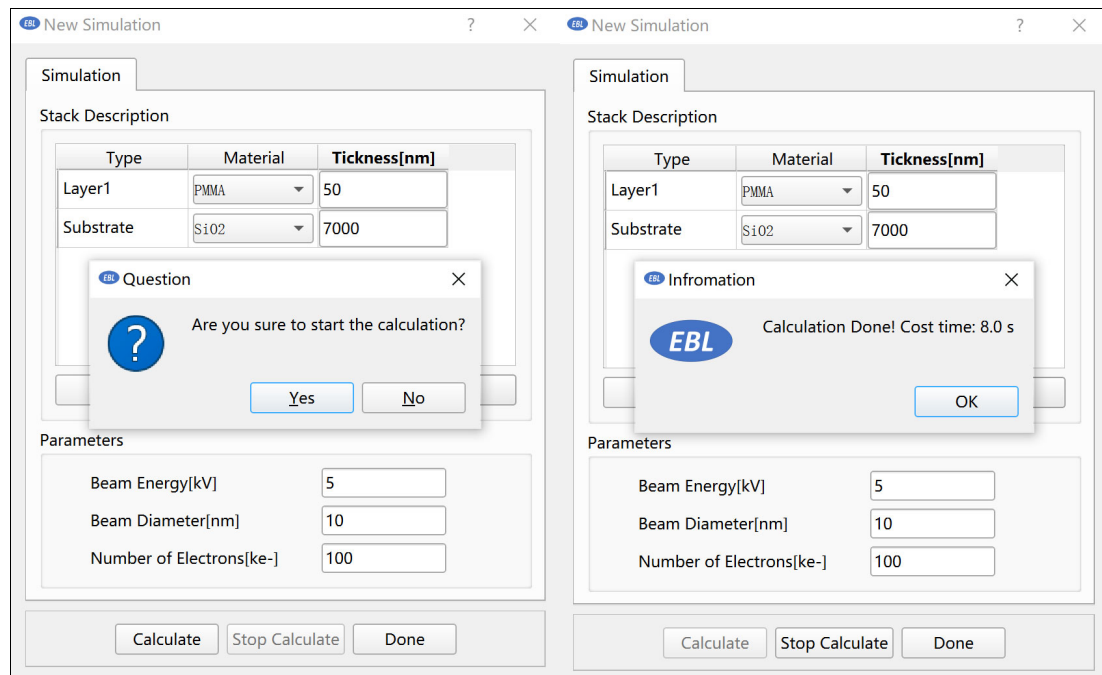

Figure 2.3.1 MC simulation
- 1) You can click "Calculate" to perform MC simulation. After the calculation is completed, a dialog box will pop up to display the cost time. Click "Done" to complete the MC simulation (Figure 2.3.1).